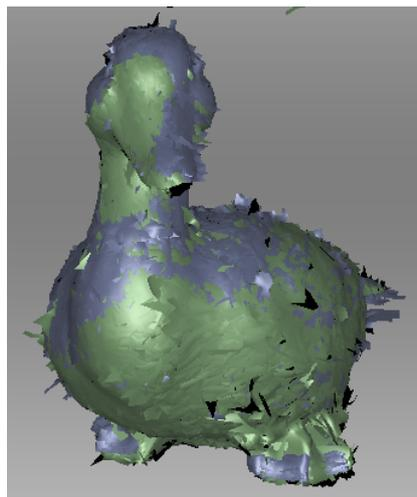

Figure 65: “Drag” alignment result
3. To confirm the alignment, release the mouse button(s) and the `Shift` key, then click *Apply*. Note carefully that any scans you are registering won't automatically move to the registered set ● (see Figure 65). You can do so manually as the *Changing Scan Status* describes.